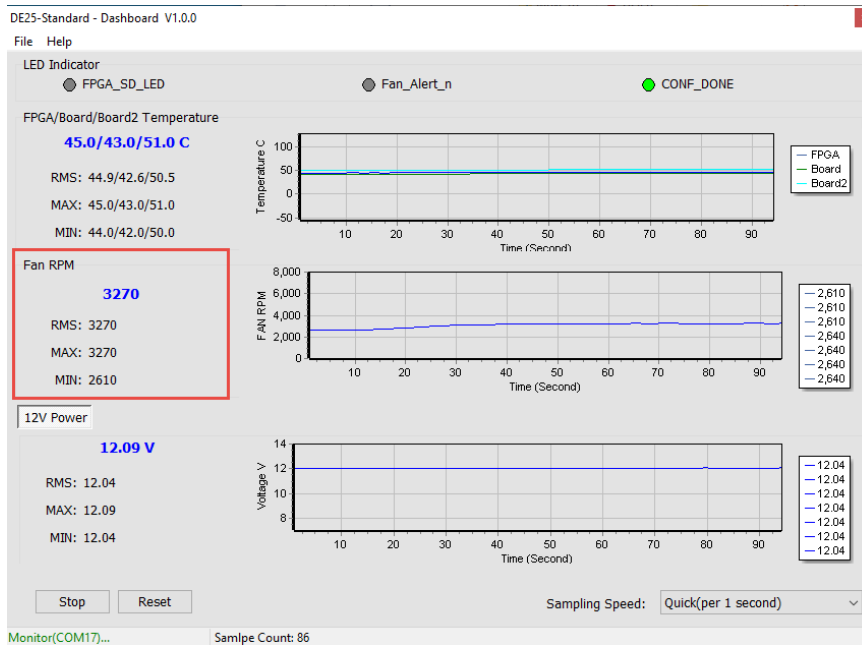

Figure 4-11 FAN RPM section
- **Fan RPM:** It displays the real-time speed of the fan on the DE25-Standard, as shown in **Figure 4-11**.